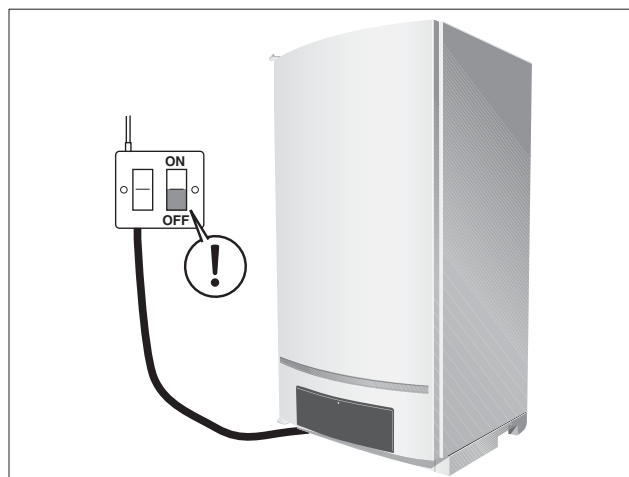

fig. 84 Switch off the power supply to the heating system
- Switch off the power supply to the heating system (fig. 84).